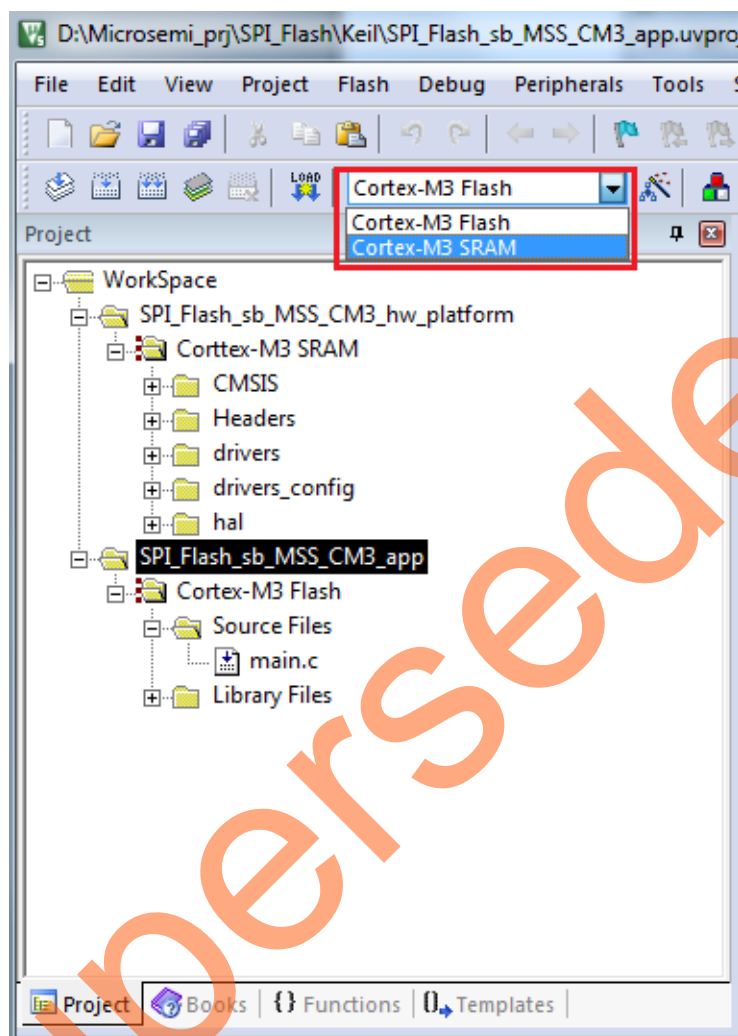

Figure 27 • Cortex-M3_SRAM Settings
11. Change **SPI_Flash_sb_MSS_CM3_app** debug mode to **Cortex-M3_SRAM** by selecting **Cortex-M3_SRAM** from the drop-down menu as shown in Figure 27.